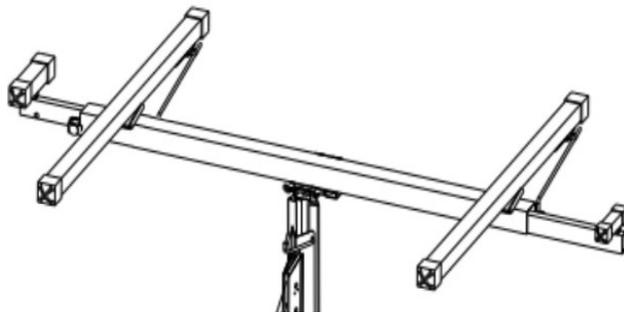

Figure 28
- Once both crossarms are attached to the cradle, the final assembly should be as shown in Fig. 28.